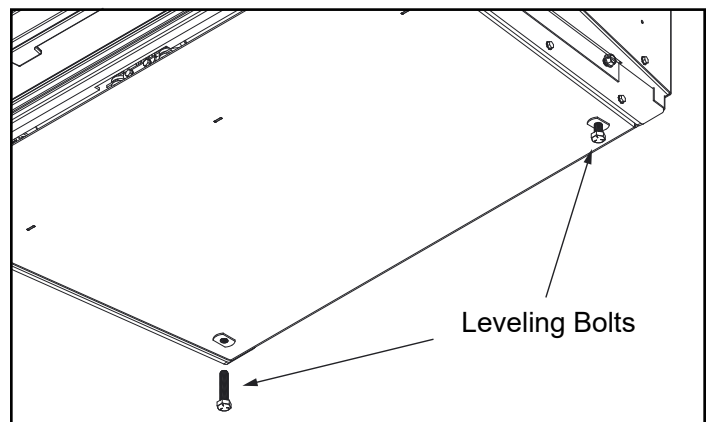

Figure 5.20
1. If needed install and adjust leg levelers as needed. (Figure 5.20).